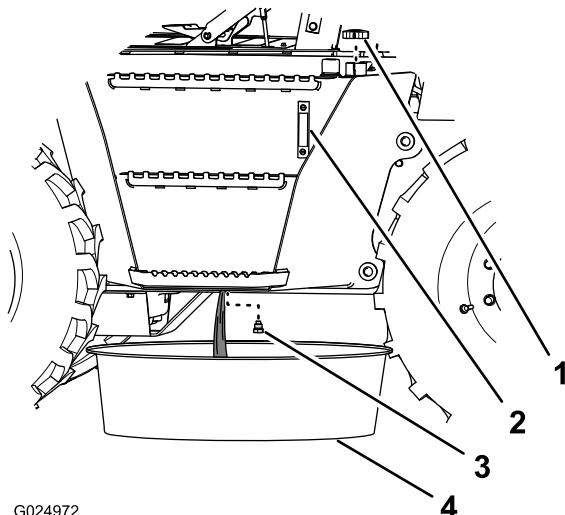

Figure 113
6. Place a container that can hold a minimum of 190 L (50 US gal) under the hydraulic reservoir drain plug (Figure 113).
7. Remove the drain plug from the hydraulic reservoir (located underneath the reservoir), and drain the reservoir (Figure 113).
9. Install the drain plug (Figure 113).